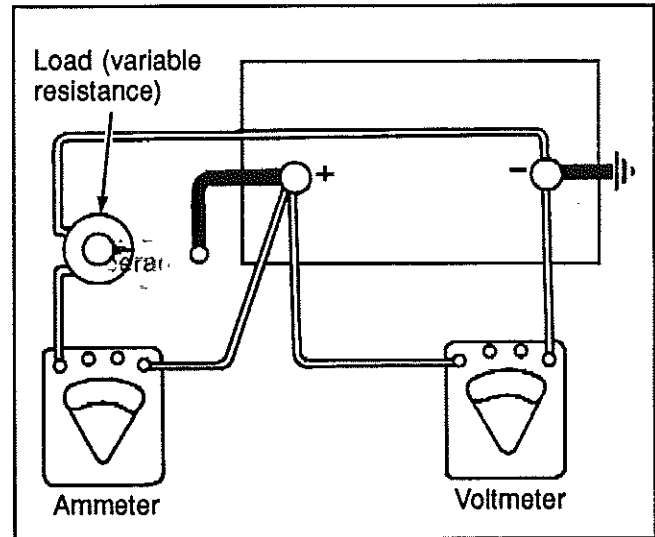

Fig. 17 - Connections for battery load test
1. Connect a voltmeter, ammeter, and a variable load resistance as illustrated in figure 17.